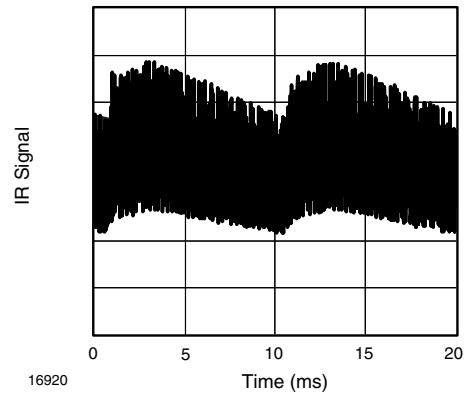
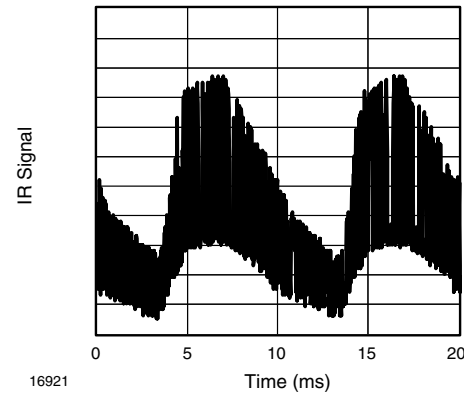

Fig. 13 - IR Signal from Fluorescent Lamp with Low Modulation
Fig. 14 - IR Signal from Fluorescent Lamp with High Modulation
- Strongly or weakly modulated patterns from fluorescent lamps with electronic ballasts (see fig. 13 or fig. 14)